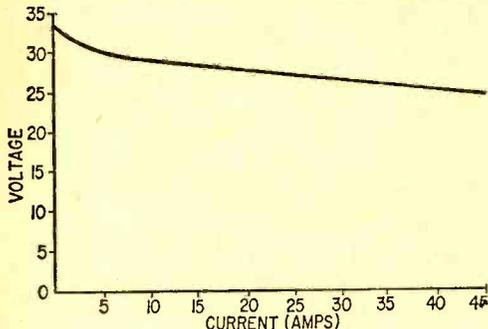

Fig. 2. Voltage-current curve of typical fuel-cell battery. A few calculations will show that battery's internal resistance is less than 0.2 ohm.
Fig. 2. Calculations for Zener-regulated 9-volt battery substitute operated from 12-to-15 volt DC automotive electrical system. Current drawn by Zener will vary with input voltage and load.
parallel for high-current output. The final package is then termed a *fuel-cell battery*. Performance ratings of a one-thousand watt unit, used in spacecraft, is shown in Fig. 2. It may be seen that as the current drain (amps) rises, the output voltage of the battery drops slightly, but remains in the 30-volt region.
**Where to Use It.** Fig. 2 suggests possible applications of the touch control. Fig. 2A is an SCR substitute for the old capacitance-operated relay (which used an RF oscillator and cost at least 5 times the price of SCR control). The load in this instance is a porch light, and point X, as shown in the photographs, is connected to a large strip of aluminum foil tacked to the doorframe opposite the doorlock. As you reach for the keyhole at night your hand will brush the foil, tripping the SCR and turning on the porch light until you enter.
Fig. 2. With aluminum or tinfoil plate attached to the inside of a showcase this circuit is quite safe, for use without transformer T1. Linecord plug polarity is still important for the operation of the circuit. Showcase glass acts as dielectric of capacitor—foil is one electrode and body capacitance (C1 in Fig. 1) completes circuit to ground. Circuit 2B (below) is more-or-less identical to 2A (above) except that the lamp is replaced by the relay coil in the circuit.